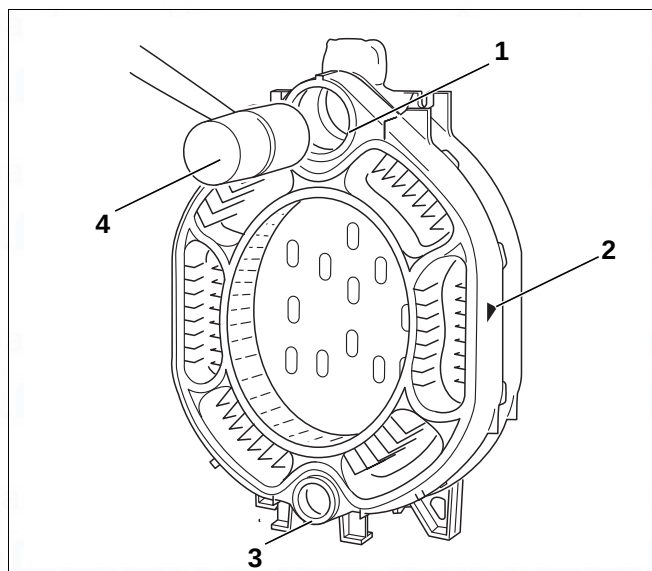

Fig. 13 Knocking the centre section into place
- ▶ Position the centre section so that the upper and lower hubs (Fig. 13, [1] and [3]) fit onto the nipples in the rear section. The installation direction arrow (Fig. 13, [2]) must point towards the back.
- ▶ Drive first centre section onto the rear section using a wooden or rubber mallet (Fig. 13, [4]).